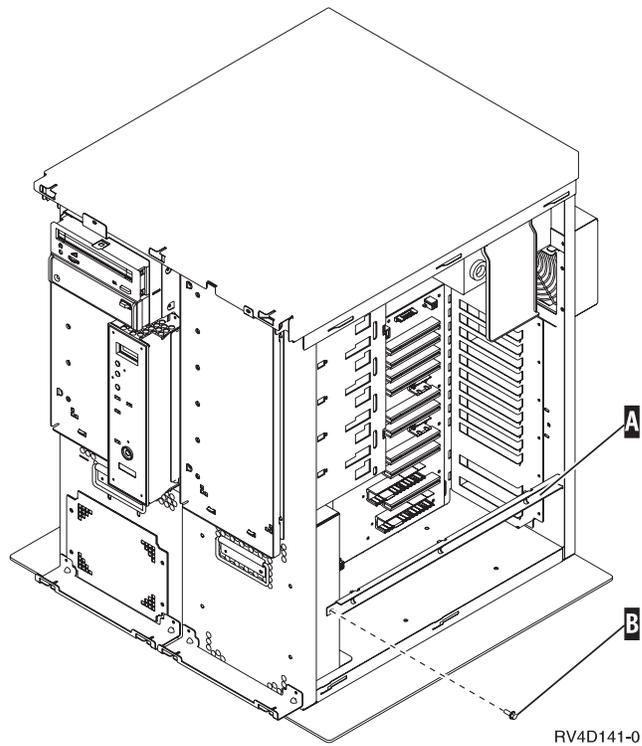

Figure 7. Remove Server Bracket
- a. Remove the screw **B** (Figure 7 on page 10) from the card bracket in position E04.